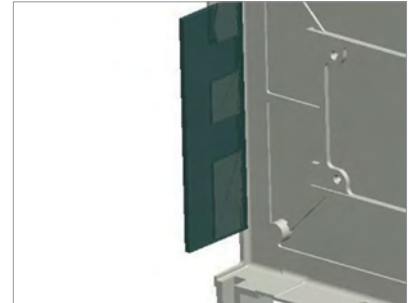

Fig. 3.6
- to ensure reliable fixture by rivets the safety plate must adjoin closely the back panel of the end cap with an overlap of at least 15 mm (fig. 3.6).